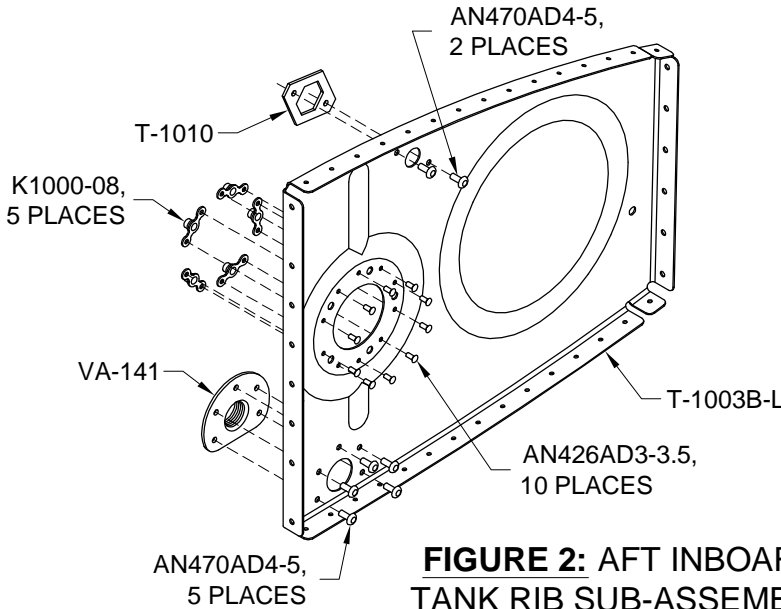

FIGURE 2: AFT INBOARD TANK RIB SUB-ASSEMBLY
Step 7: Attach the VA-141 Fuel Flange, T-1010 Anti-Rotation Plate, and nutplates to the T-1003B-L Tank Inbd Rib - Aft as shown in Figure 2.